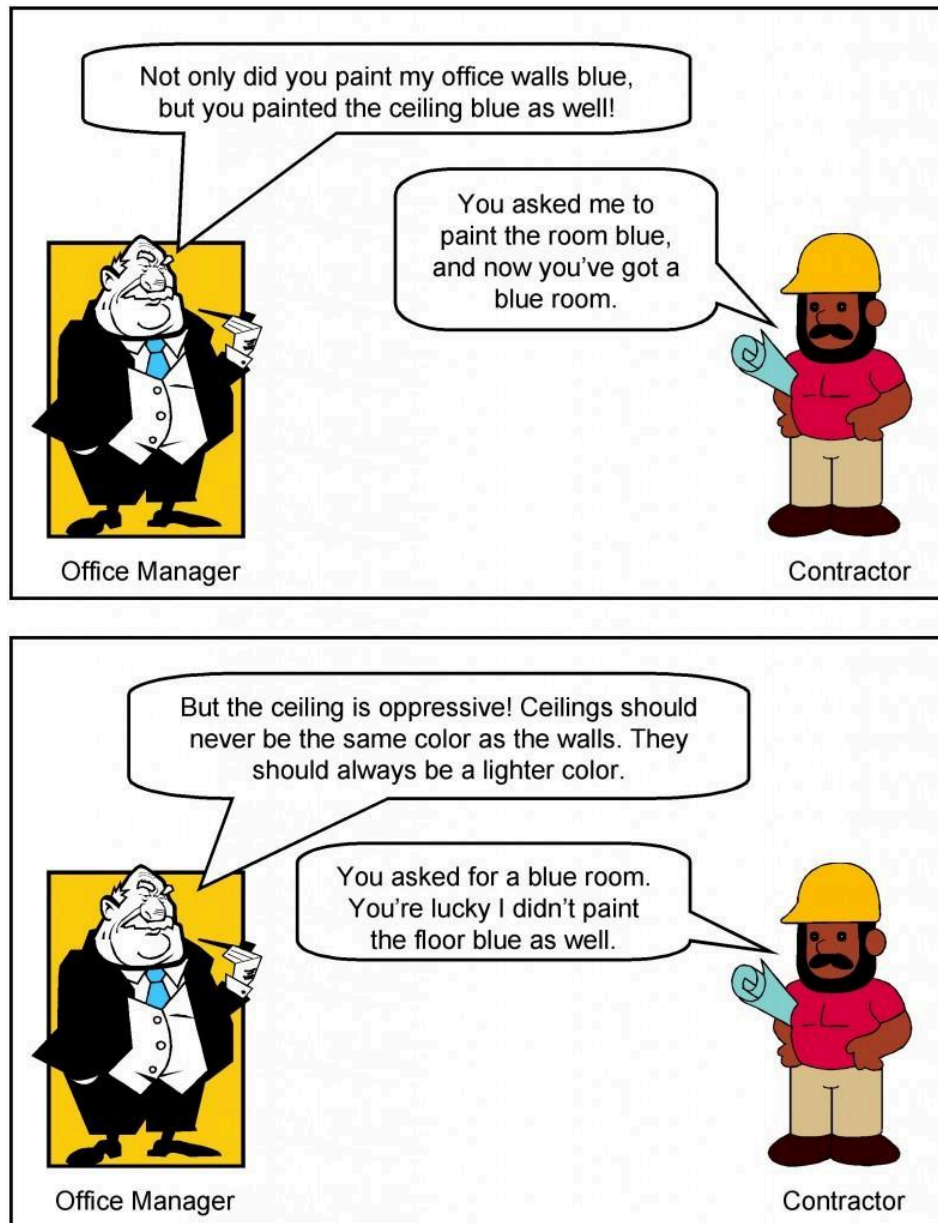

Figure 6.2: The consequence of not making your objective clear. [Image Description]
Imagine an office manager has contracted a painter to paint his office. His goal or objective is to have the office painted a pleasing blue color. Consider the conversation that occurs in Figure 6.22 after the job was finished.
2. Figure 6.2: The consequence of not making your objective clear. Illustration from Barron & Barron Project Management for Scientists and Engineers, <http://cnx.org/content/col11120/1.4/>